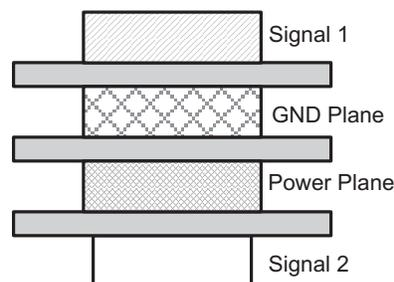

Figure 5. Example Layout
- When working with high frequencies, a printed circuit board with at least four layers is recommended; two signal layers separated by a ground and power layer as shown in Figure 5.